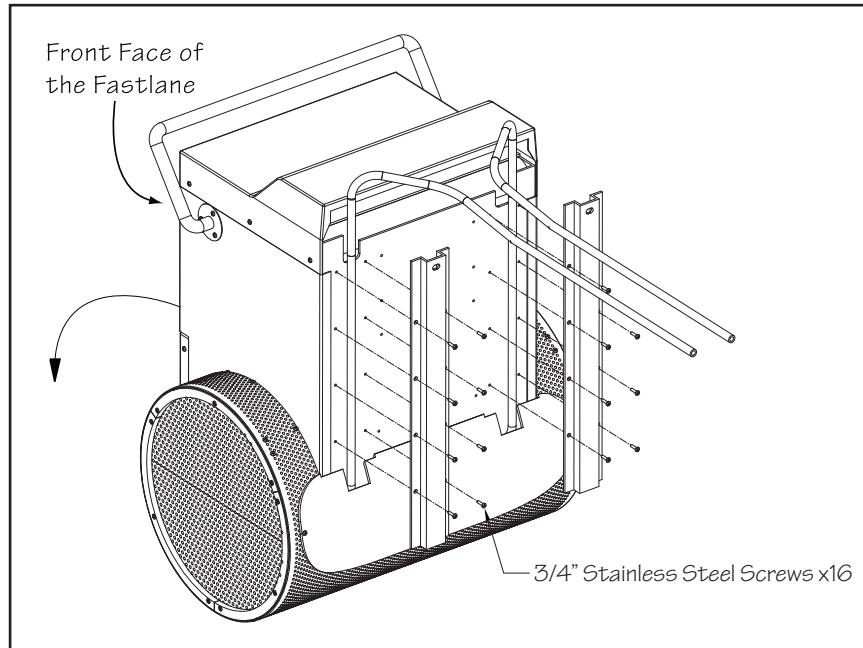

Fig. 6.5
- 6.7 Carefully lay the Fastlane onto its front face. Run the hydraulic hoses up the back of the upper housing. The two hat channels will be placed over the hydraulic hoses. Make sure that the mounting hole in the end of the hat channel is facing up and that the bottom of the hat channel has been inserted into the notch in the cylindrical base. Use the provided 3/4" stainless steel screws to attach the hat channels to the upper housing. There will be eight screws per hat channel (Fig 6.5).